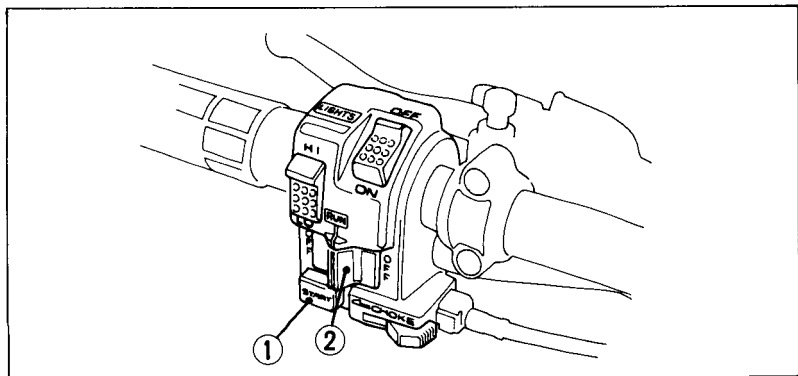

Fig. 2-9
The starter button (Fig. 2-9) is below the engine stop switch. To start the engine, press the starter button (1), with the transmission in neutral, the ignition switch ON and the engine stop switch at RUN.